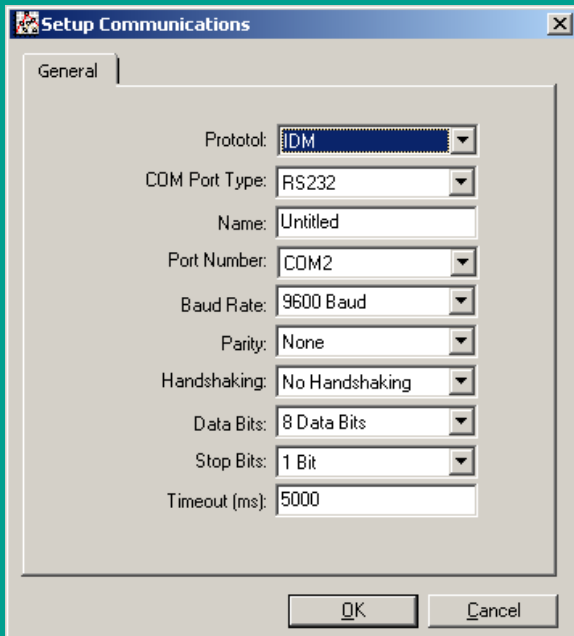

Figure 19: Setup communications screen
4. Click on the "communications port" option to select it. The setup communications screen appears similar to figure 19.